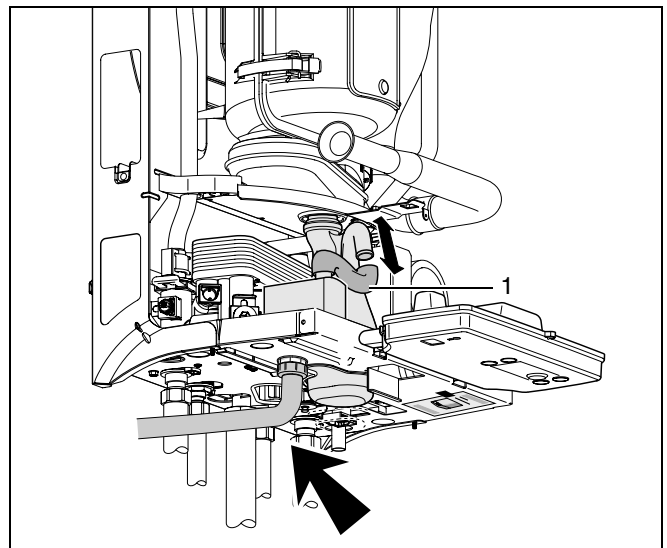
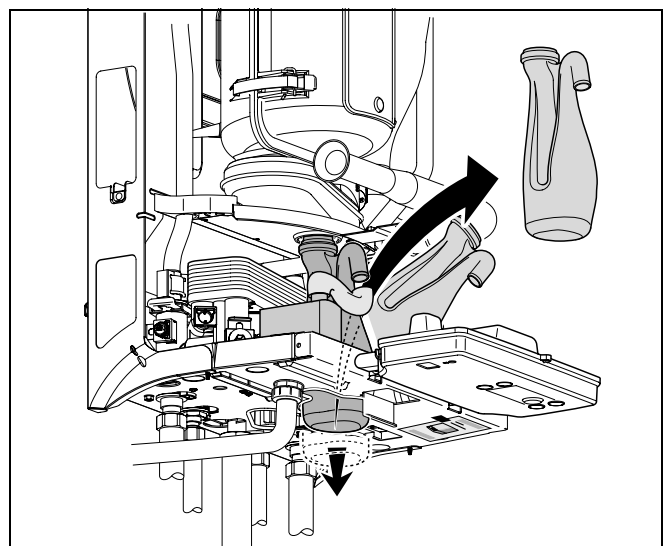

fig. 62 Disconnect hose from condensate trap
fig. 63 Remove the condensate trap
- Remove the condensate trap (fig. 62 and fig. 63).
- Undo the condensate drain connection (see fig. 62, item 1) and remove the syphon.